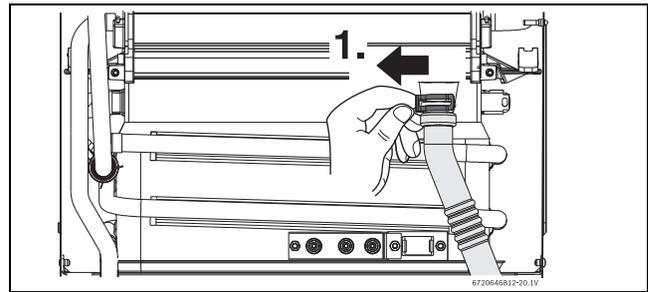

Fig. 35 Disconnect drain tube
► Remove the clip and disconnect the drain tube, see fig. 35.